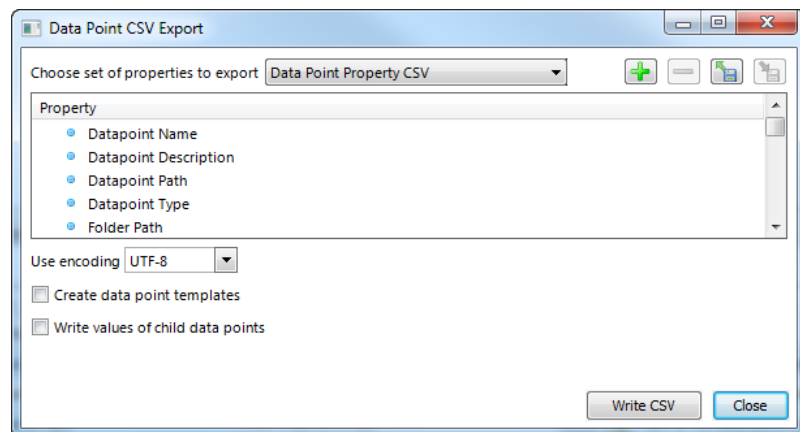

Figure 72: Data point CSV export dialog.
3. The Data Point CSV Export dialog opens as shown in Figure 72.